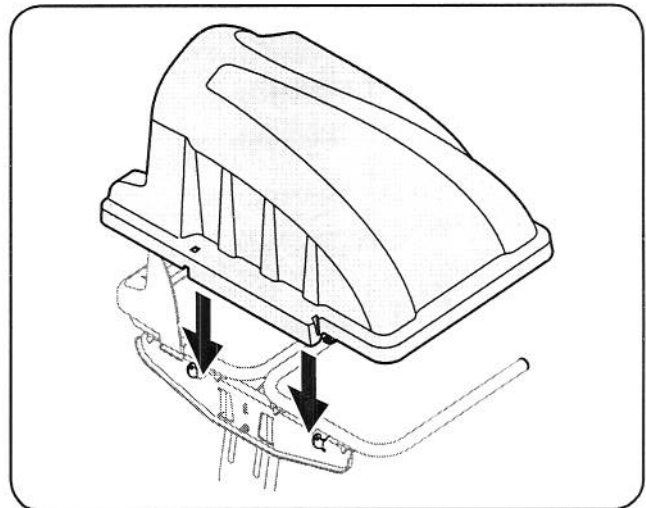

Figure 4-15
5. Install the grass catcher cover onto the bag support assembly, as seen in Fig. 4-15. The grass catcher cover goes inside of the two mounting tabs on the bag support assembly.